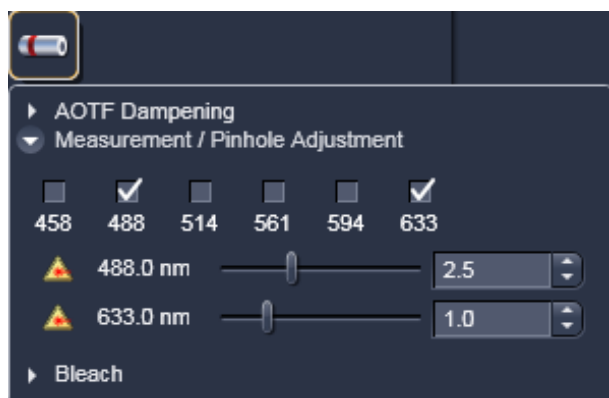

Fig. 9-27 Measurement / Pinhole Adjustment panel
- Press the **Measurement / Pinhole Adjustment** tab to display the laser control panel used for measurements and pinhole adjustments (Fig. 9-27). Press again to close the panel.